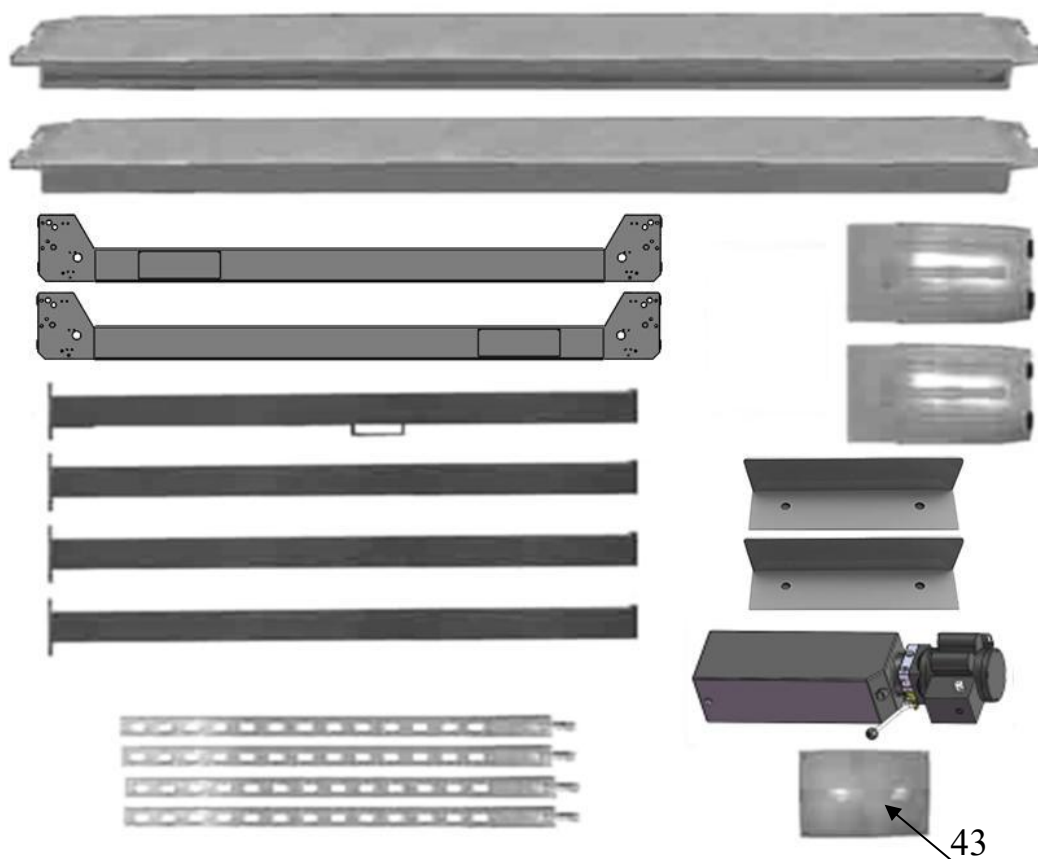

Fig.8
6. Move aside the parts and check the parts according to the shipment parts list (See Fig. 8).